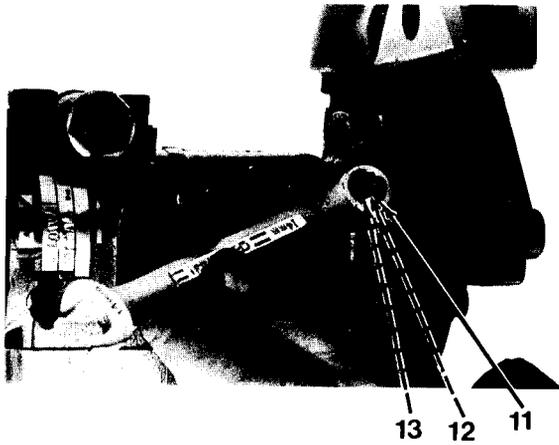
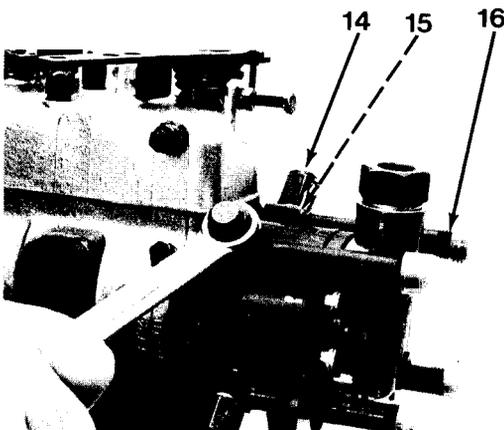

Figure 7-14
Figure 7-15
1. Remove cap screw (11) and washer (12, Figure 7-14).
2. Remove O-ring (13) from cap screw(11).
3. Remove four banjo bolts (14), eight copper washers (15) and four fittings (16, Figure 7-15).